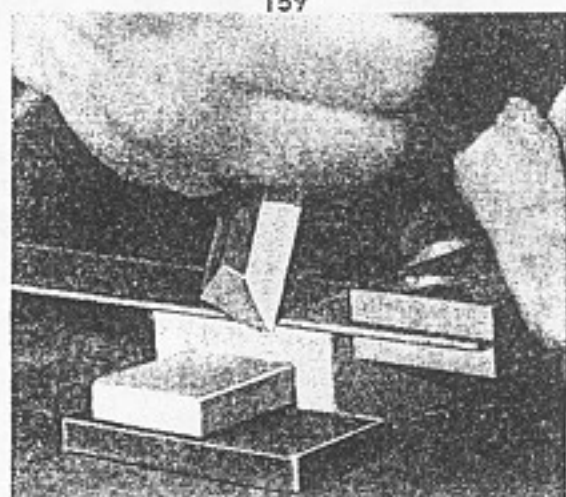
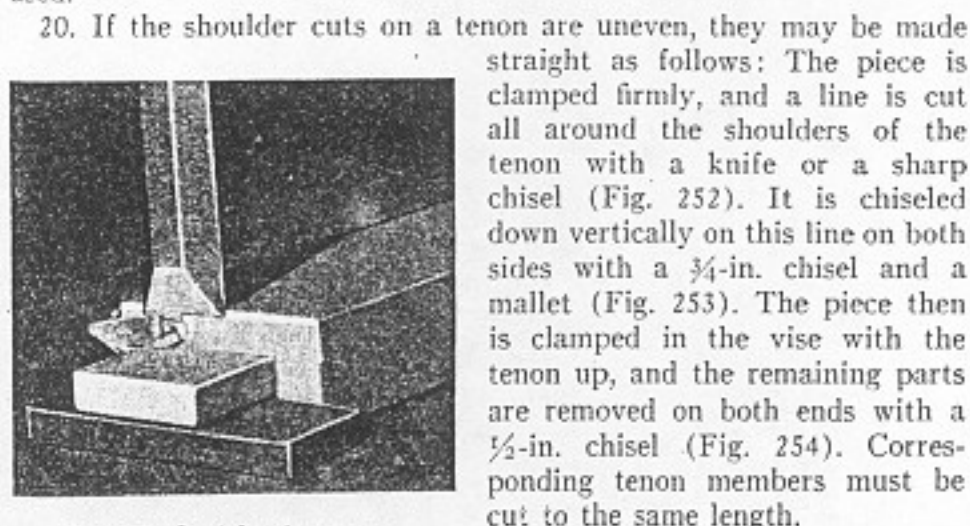
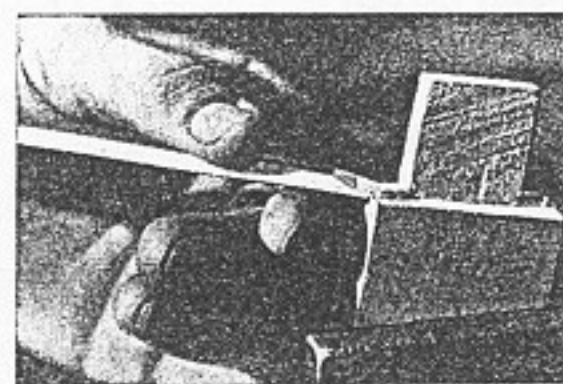

Fig. 252. Cutting line around shoulders of tenon with sharp chisel.
Fig. 253. Straightening uneven shoulder cuts with chisel.
Fig. 254. Removing remaining parts on shoulder with chisel.
20. If the shoulder cuts on a tenon are uneven, they may be made straight as follows: The piece is clamped firmly, and a line is cut all around the shoulders of the tenon with a knife or a sharp chisel (Fig. 252). It is chiseled down vertically on this line on both sides with a $\frac{3}{4}$ -in. chisel and a mallet (Fig. 253). The piece then is clamped in the vise with the tenon up, and the remaining parts are removed on both ends with a $\frac{1}{2}$ -in. chisel (Fig. 254). Corresponding tenon members must be cut to the same length.